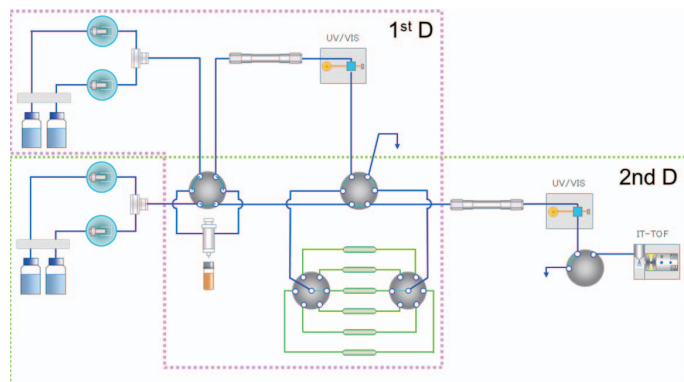

Fig. 1 Flow Diagram of 2D-LCMS-IT-TOF System
Pharmaceutical companies are facing significant challenges as a result of a period exclusivity losses which has opened up new generic competition. As one example, Pfizer's \$10 billion-a-year drug, the cholesterol fighter Lipitor, will lose patent protection in the U.S. in November 2011 which will release the generic form. However, to gain regulatory approval for generic marketing requires strict adherence to regional regulatory requirements. In this report we describe an automated 2D-LCMS-IT-TOF system (Fig. 1) that can be applied to a standard 16th Japanese Pharmacopeia (JP) purity test in the analysis of atorvastatin calcium hydrate (ATO, brand name Lipitor).